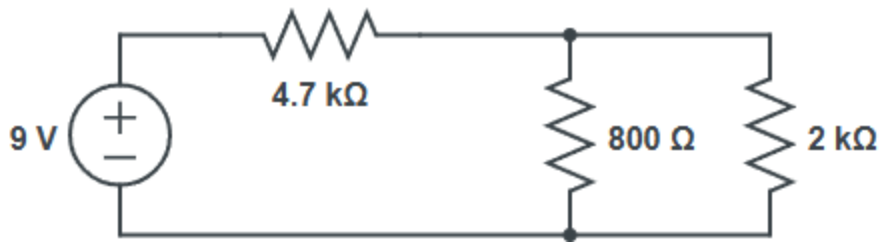

Figure 6
a) Calculate the equivalent resistance of the parallel resistors in Figure 6.